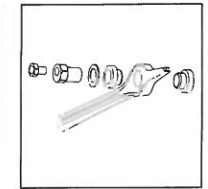

Fig. 3
- Press urethane bushings into arm. Press eccentric adjuster into bushings from rear of vehicle, fitting plastic washer over adjuster as shown in figure 3.
- Install lateral link over bolt. Fit and snug special nut as in figure 3. Do not tighten at this time.